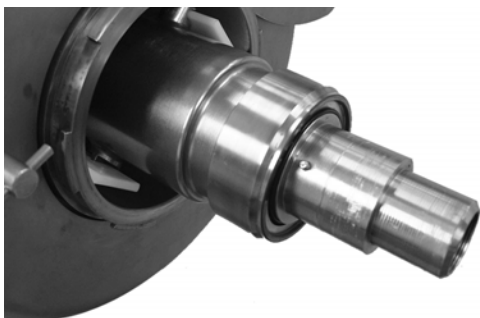

Figure 68 - Install Seal Body
3. Place seal body (Figure 68) or one piece seal on shaft, aligning slots with seal drive pins.